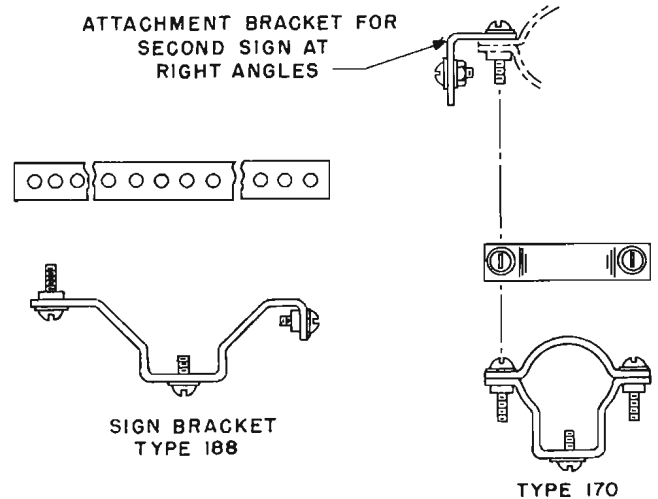

Fig. 7 — 170- and 188-Type Sign Brackets
**3.07** Fig. 7 shows the type of mounting brackets for metal pole installations. Table A lists the various sizes and types of 170- and 188-type sign brackets.